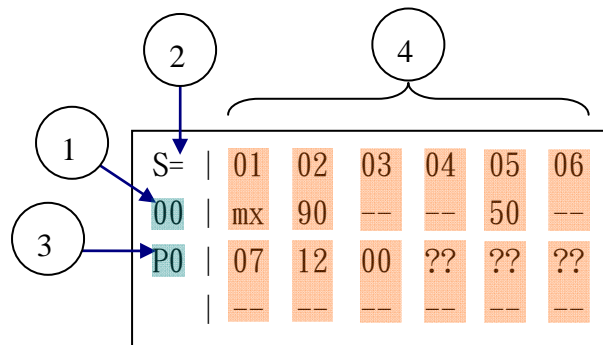

Figure 2.6: The window showing system scene setting for multiple target devices
The function of system scene provides another method to change or set the scene. For this function, only one scene can be established for each setting. Please refer to Figure 2.6 and follow the steps described below.
- (3) When the cursor is located at position ③ in Figure 2.6, users can change the viewing page by using the (+) or (-) button in Figure 1.1. Since the maximum number of target devices that can be displayed in a viewing page is 12, the viewing page must be changed if the number of target devices to be considered is greater 12. The AO-1330 is designed so that five viewing pages can be changed. That is, values of 60 target devices can be edited in the setting of system scene.
- (4) Each of the red-colored block indicated by ④ in Figure 2.6 represents setting of an target device. The upper and lower value of each block represents the ID number and the corresponding illumination of the target device, respectively.
- The ID numbers are arranged in such a way: starting from the left to the right for the upper row, then from the left to the right for the second row, and so on. If ID setting is performed manually, make sure to locate the ID with number “00” at the “01” position of upper left corner in ①. Otherwise, all target devices with numbers behind ID “00” won’t be written in the system.